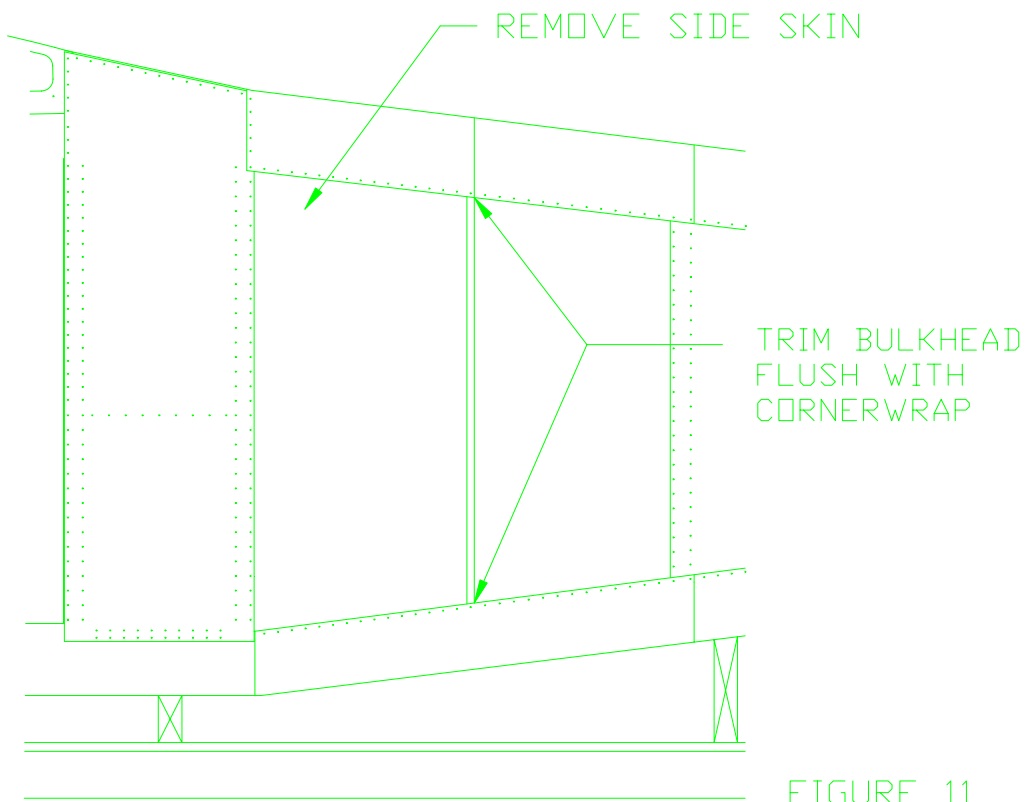

FIGURE 11
56) Carefully remove the left FUS-339 side skin. Figure 11
57) Cut the center section of bulkhead "A" out as in Figure 11.